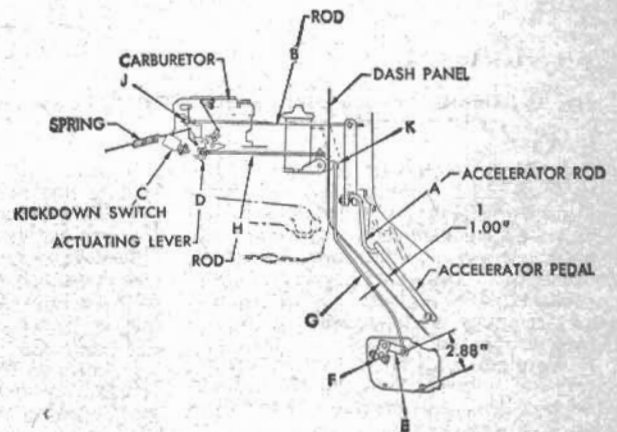

Fig. 25 Adjusting V8 (4-barrel carb.) throttle linkage. 1956 Powerglide
2. Disconnect rod G from lever E, Fig. 25.